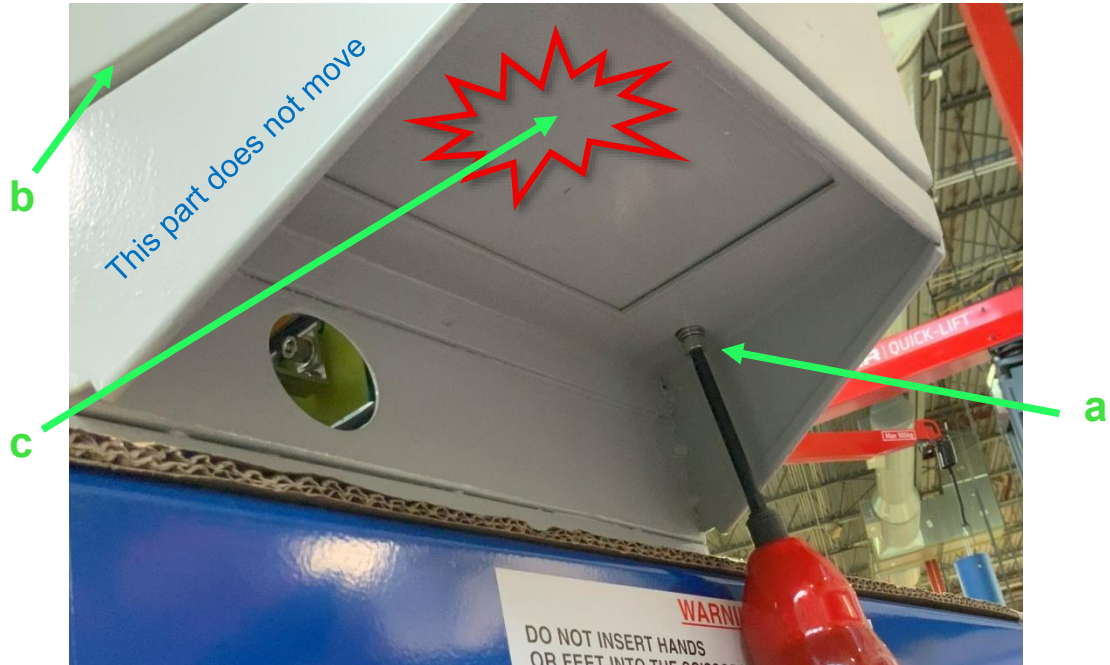

Figure 7 – Removing HX from charger
4. Remove left-side or right-side Heat Exchanger (HX).
- a. Remove bottom socket cap screws (2 on each Heat Exchanger) with a 6 mm hex driver and extension (Figure 7).